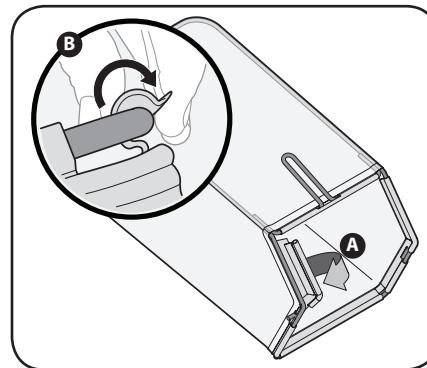

Figure 2-6
- Follow steps below to assemble the grass catcher (if needed). Make certain bag is turned right side out before assembling (warning label will be on the outside). See Figure 2-6.